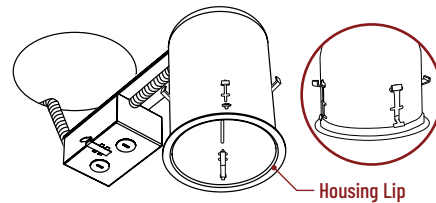

Figure 1
1. Push ceiling spring clips into housing to insert into ceiling opening. (Figure 1)